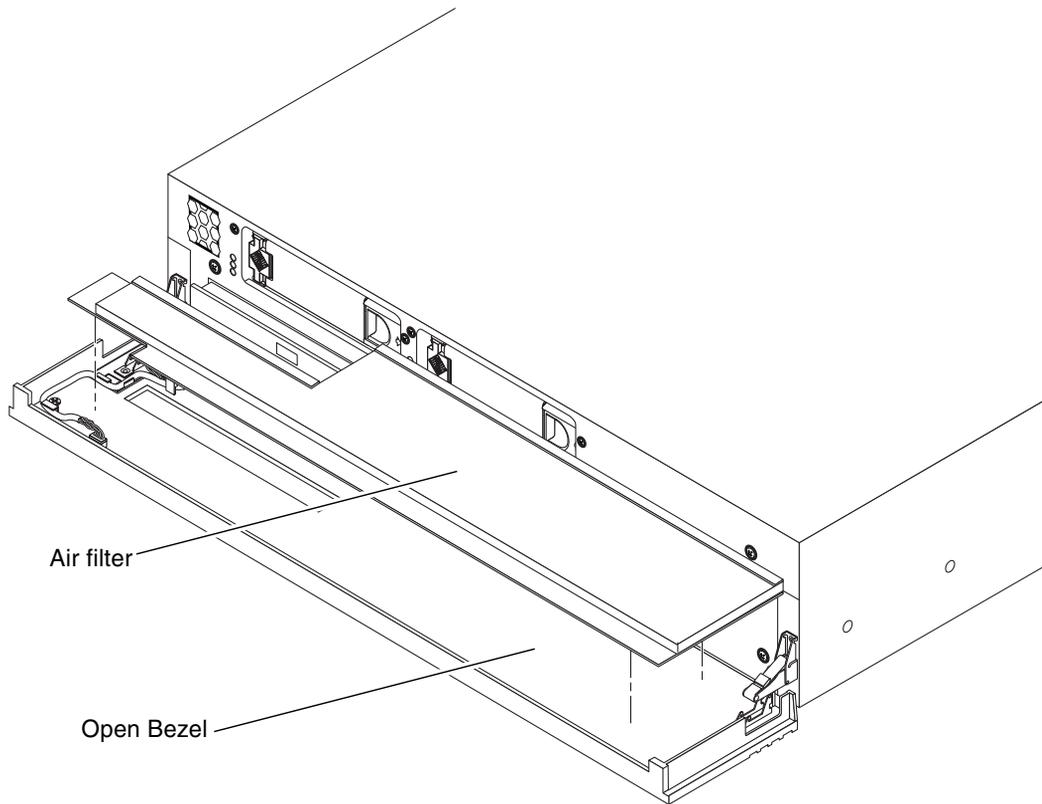

FIGURE 3-3 Removing and Replacing the Air Filter From the Bezel
3. **Lift out the air filter from the inside of the bezel by gripping it near the DVD bay area** (FIGURE 3-3).
1. Snap the new air filter into place in the bezel (FIGURE 3-3).